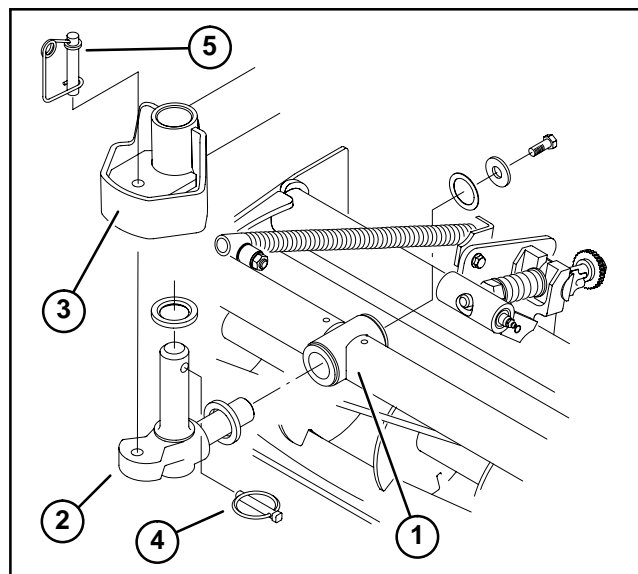

Figure 39
6. Insert a thrust washer onto horizontal shaft of pivot knuckle as shown (Fig. 39).
10. Insert the vertical shaft of the pivot knuckle into lift arm pivot hub (Fig. 39). Guide the pivot knuckle in place between the two rubber centering bumpers in the under side of the lift arm steering plate.
11. Insert the lynch pin into the cross hole on the pivot knuckle shaft (Fig. 39).
12. Insert steering pin into the pivot knuckle if you wish to keep cutting units locked in a straight line during operation. If no steering pin is used, the cutting units will steer themselves as the traction unit turns (Fig. 39).
13. Hook spring wire around bottom of steering pin (Fig. 39).